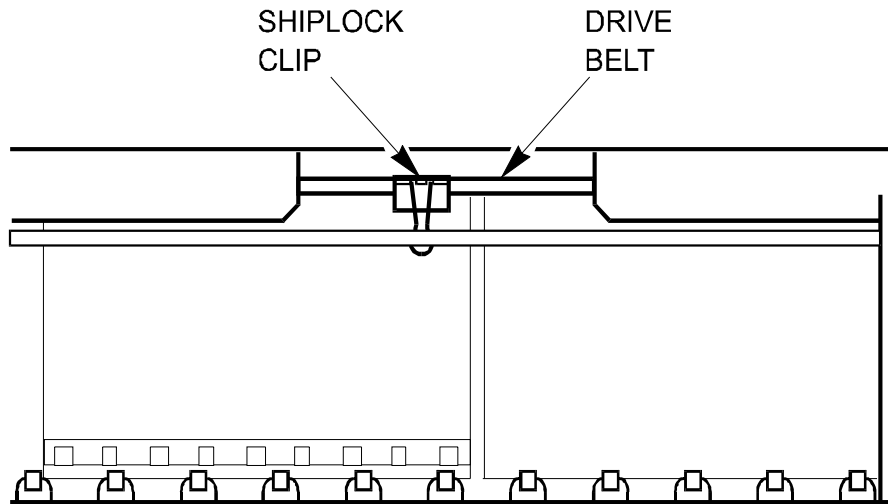

Figure 9. Shiplock
3. Remove the magazine by grasping the flanges on the right and left side of the magazine, then pulling the magazine straight out from the unit. The shiplock (marked with an orange ribbon in **Figure 9**.) can now be removed.